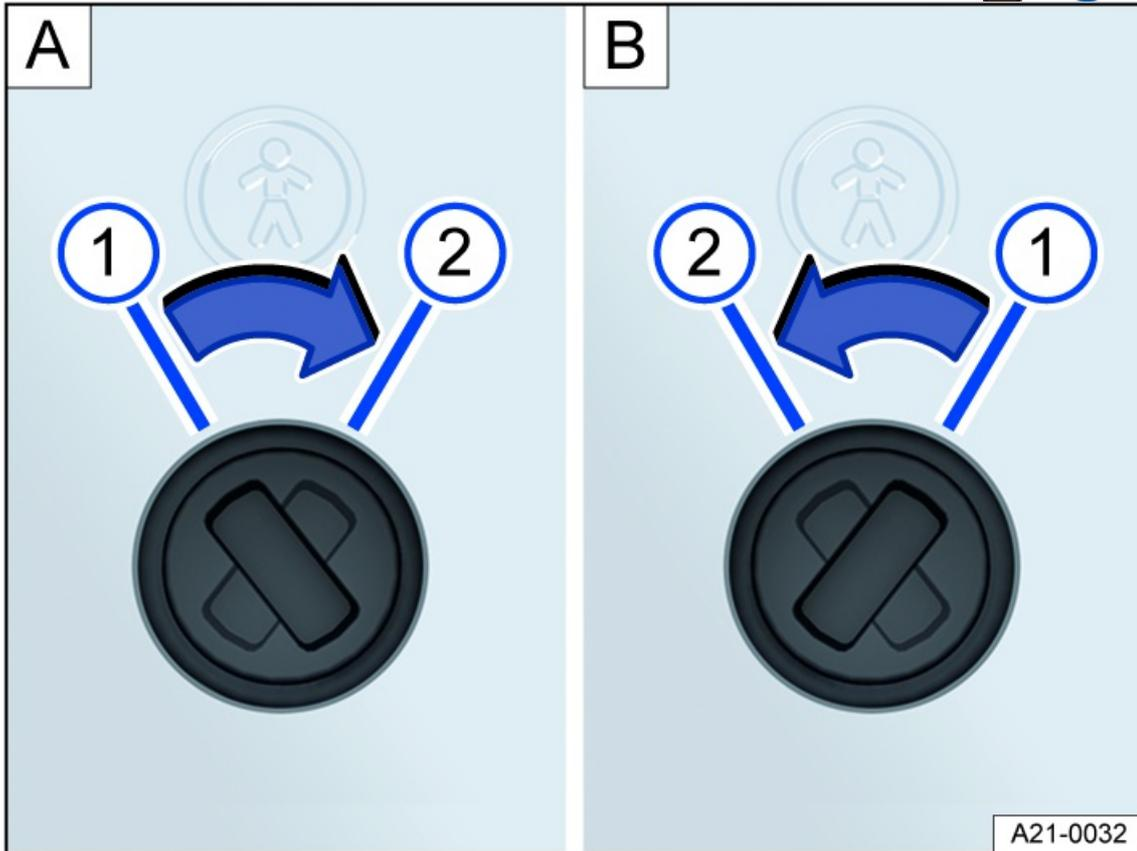

Fig. 56 Child safety lock: **A** left rear door, **B** right rear door.
2. Bring the slot into the corresponding position *fig. 56*.